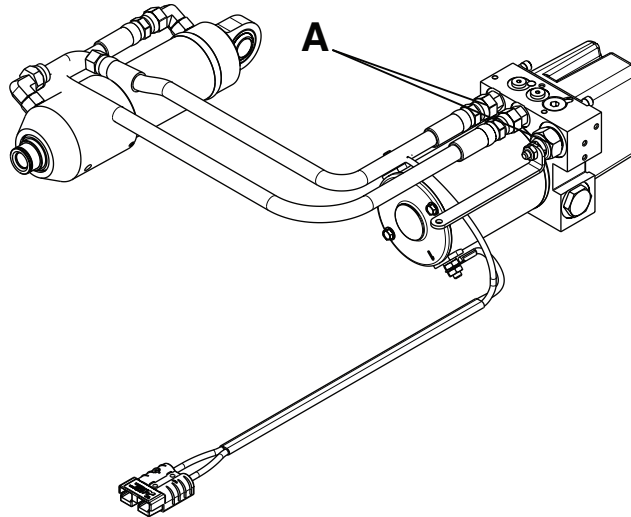

Figure 41 – Hydraulics assembly hose end connectors
3. Using two 9/16" combination wrenches, loosen (do not remove) the hose end connectors (A) from the manifold to remove both hoses (Figure 41).